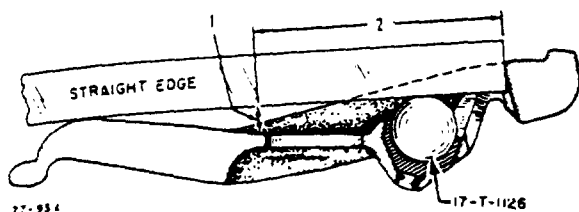

Figure 5-3. Checking Release Lever for Bend
4. Replace worn release levers, springs and ball seats. Check levers with a straight-edge and 11/16 inch ball (17-T-1126), see Figure 5-3, and if bent so that dimension (1) is more than 11/32 inch when measured at a point where distance (2) is 2-1/2 inch, replace the lever.